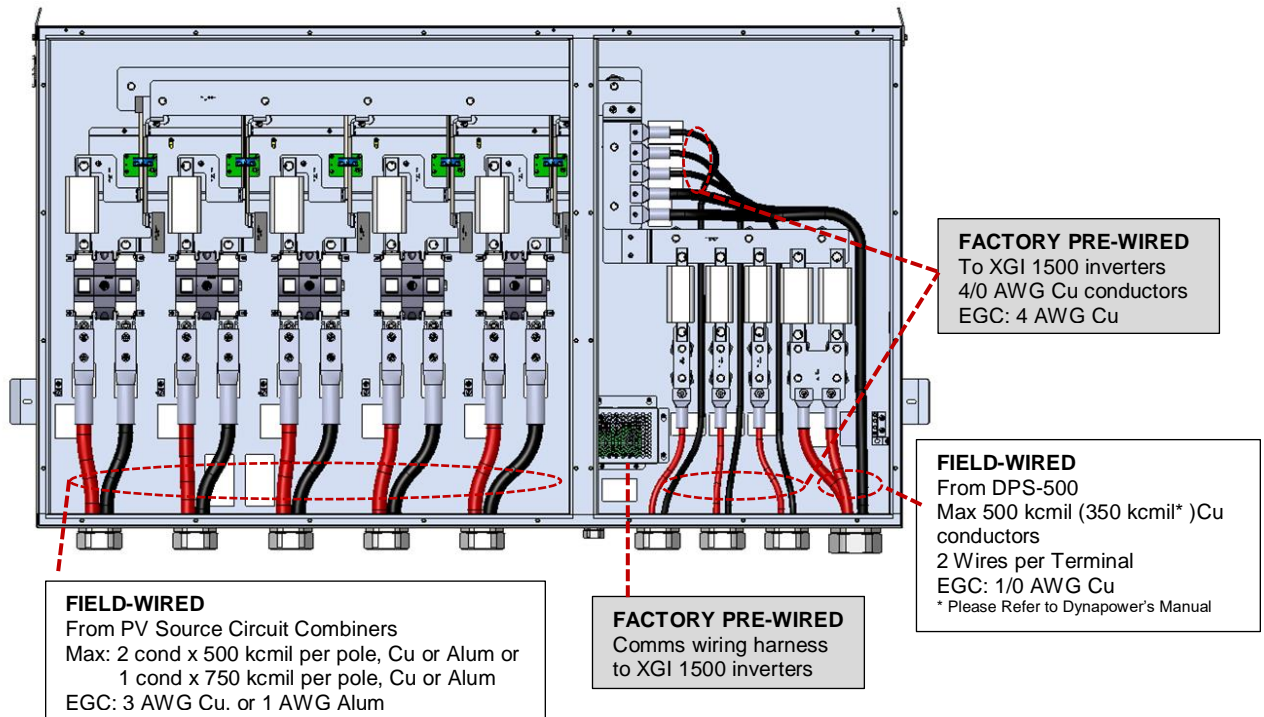

Figure 5.1 – Specs for Field Wiring to the DCR-1500 Re-Combiner
Completing the installation of the DC Re-Combiner (see Figure 5.1) requires: (1) field wiring from the PV Output (Source) Circuits, originating in CR1500-400 PV Source Circuit Combiners in the PV array field, to the terminals in the DC Re-Combiner and (2) field wiring from the terminals in the DC Re-Combiner to the terminals in the Dynapower DC/DC Converter. In addition, the DC Re-Combiner has two factory pre-wired connections: DC power from the DC Re-Combiner to the DC input of the XGI 1500 inverters, and the communications wiring harness that also connects the DC Re-Combiner to the XGI 1500 inverters. Figure 5.1 shows the maximum wire compatibility for the field-wired connections, and the as-delivered factory-wired conductor specifications.